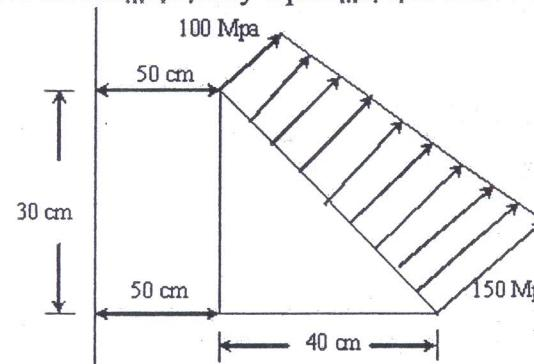

Figure.5
- 5.a) An axisymmetric triangular element is subjected to the loading as shown in Figure.5. The load is distributed throughout the circumference and normal to the boundary. Derive all the necessary equations and derive the nodal point loads.